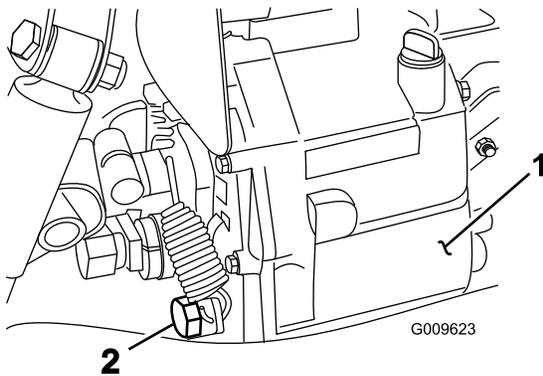

Figure 77
2. Remove the drain plug from the side of the reservoir and let the hydraulic fluid flow into a drain pan (Figure 77).